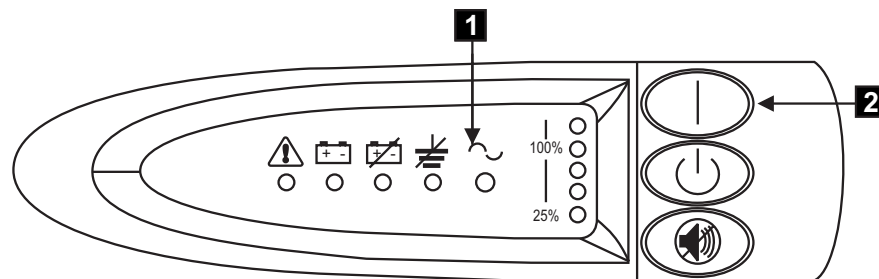

Figure 169. Power switch and indicators of the 2145 UPS
10. All the front panel indicators (see Figure 169) flash for a short time while the 2145 UPS runs a self test. When the test is complete, the mode indicator flashes to show that the 2145 UPS is in standby mode.